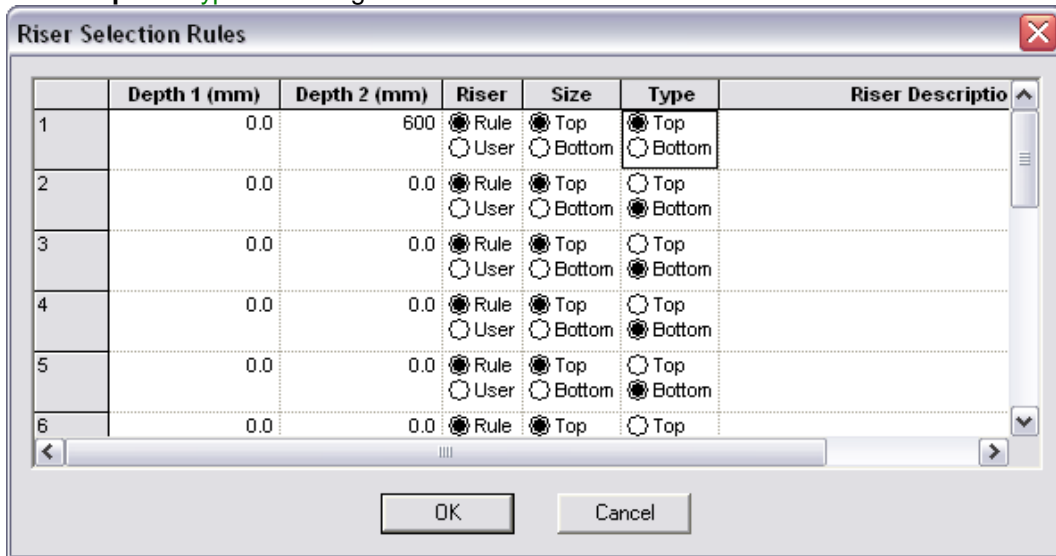

Figure CS 5
4. Select *Design/Riser Selection Rules*. “Depth 1” is always the top depth, in this case **0** as this is the depth of the spraylines. “Depth 2” is the depth of the submain so type in **600**. To have the riser the same size and type as the Sprayline itself we will leave **Rule** checked for “Riser” and also check **Top** for “Size” and **Top** for “Type”. See Figure CS 5.